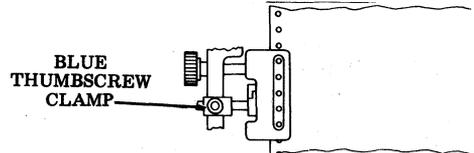

Fig. 61—Thumbscrew Clamp
- (e) To align forms to desired first column printing, loosen blue thumbscrew clamp (Fig. 61) and position forms drive assembly to align first position on paper with first printing character position. Tighten thumbscrew clamp.